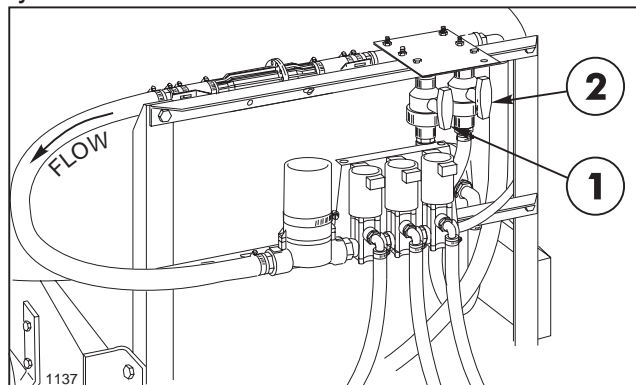

FIG. 3
**JET AGITATOR VALVE HANDLE:** Opens and closes the Agitator Valve to activate, adjust or stop the agitation of the spray solution in the Tank. See FIG. 3.
**BY-PASS VALVE HANDLE:** Use to adjust and maintain the maximum pressure in the spraying system. See FIG. 3.